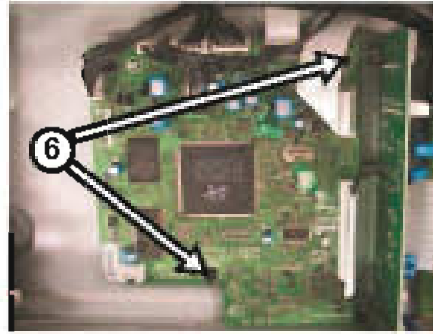

Figure 4-8
- 1) Loosen 2 screws (See Figure 4-8) & 2 screws (Figure 4-9) to remove AV Interface Board & PCBAS 9.1 Board.